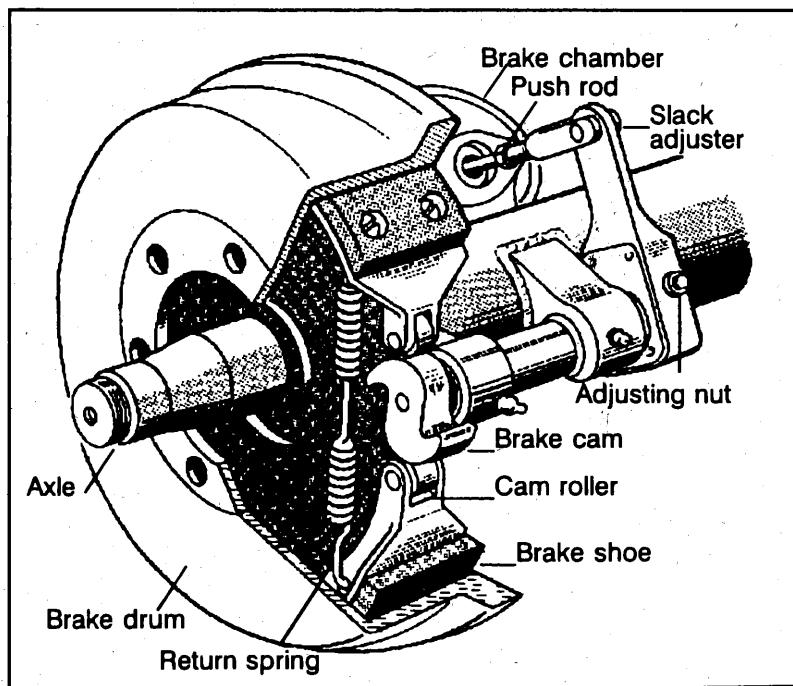

Figure 5-2
Foundation brakes are used at each wheel. The most common type is the S-cam drum brake, shown in Figure 5-2. The parts of the brake are discussed below:
**S-Cam Brakes.** When you push the brake pedal, air is let into each brake chamber (see Figure 5-2). Air pressure pushes the rod out, moving the slack adjuster, thus twisting the brake cam shaft. This turns the S-cam (so called because it is shaped like the letter "S"). The S-cam forces the brake shoes away from one another and presses them against the inside of the brake drum. When you release the brake pedal, the S-cam rotates back and a spring pulls the brake shoes away from the drum, letting the wheels roll freely again.